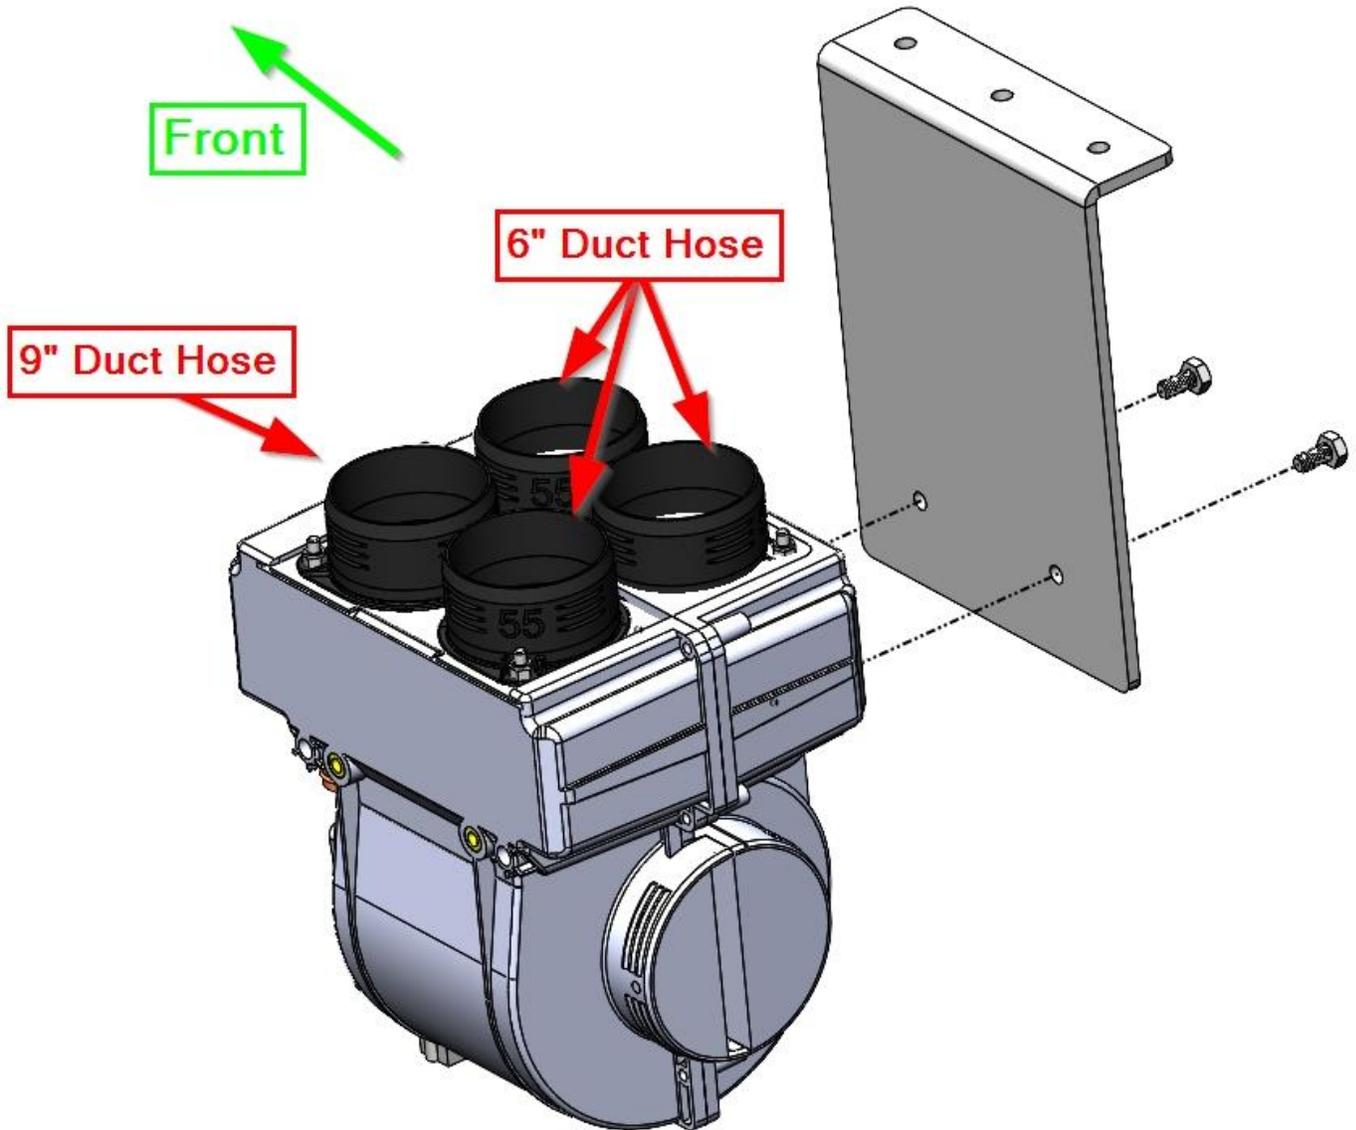

Figure 4
6. Attach the heater core to the bracket using the M6-1.0 x 12mm Hex Head Screws as shown in **Figure 4**.
9. Attach your dust hose as shown in **Figure 4**.